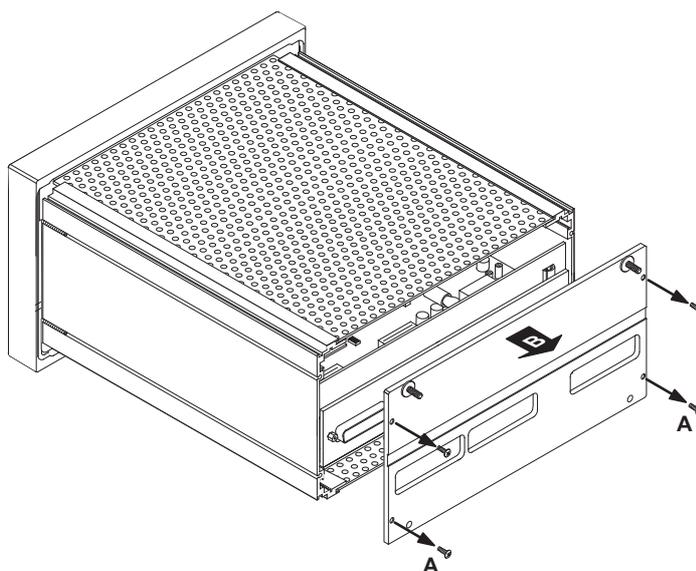

Fig. E 8-24: Removing the rear cover panel
7. Open the unit's rear cover panel (4 screws). Store screws and cover panel (see Fig. E 8-24).